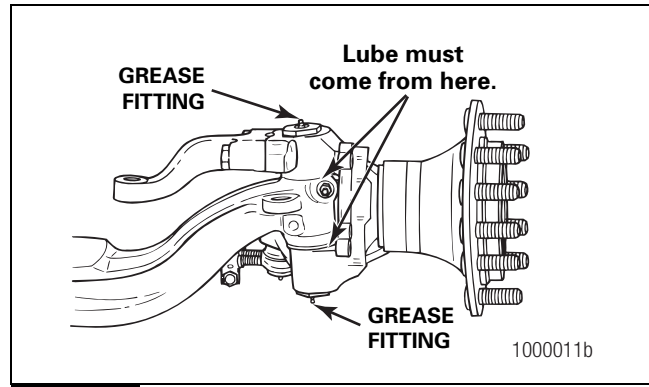

Figure 9.9
5. Force lubricant into the upper and lower king pin grease fitting until new lubricant flows from between the upper axle beam end and the knuckle, and the lower axle beam end and the knuckle. Figure 9.9.